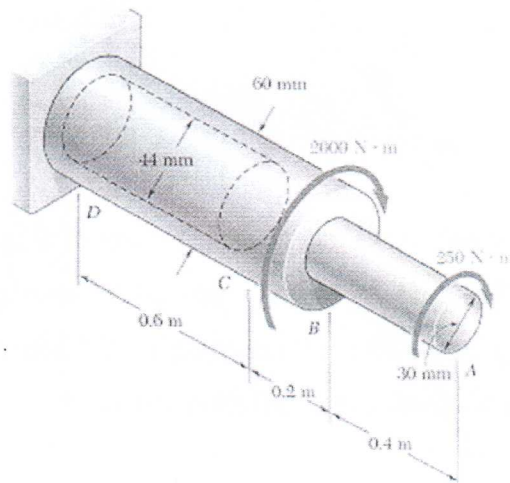

Figure 3.
- (9) The horizontal shaft *AD* is attached to a fixed base at *D* and is subjected to the torques as shown in Figure 3. A 44 mm diameter hole has been drilled into portion *CD* of the shaft. Knowing that the entire shaft is made of steel for which $G = 77$ GPa, determine the angle of twist at end *A*.